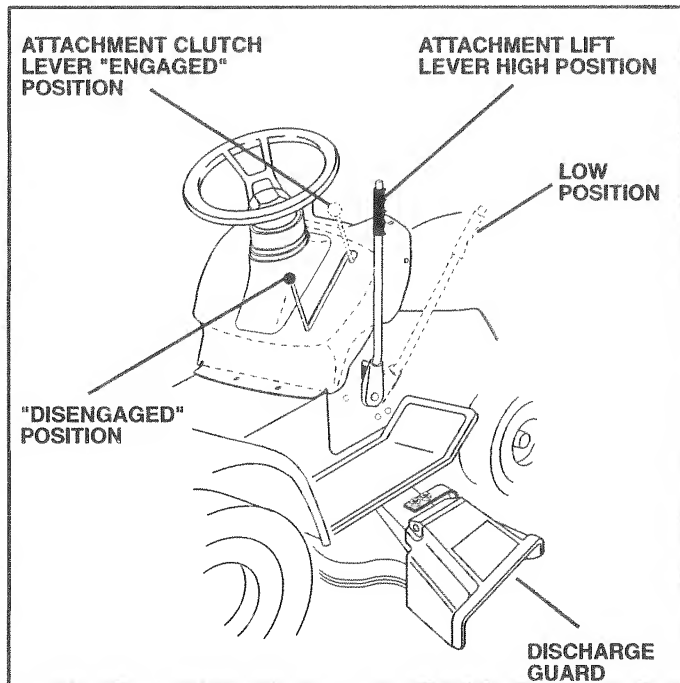

FIG. 7
## TO OPERATE MOWER (See Fig. 7)
- Use the runner on the right hand side of mower as a guide. The blade cuts approximately an inch outside the runner (See Fig. 7).